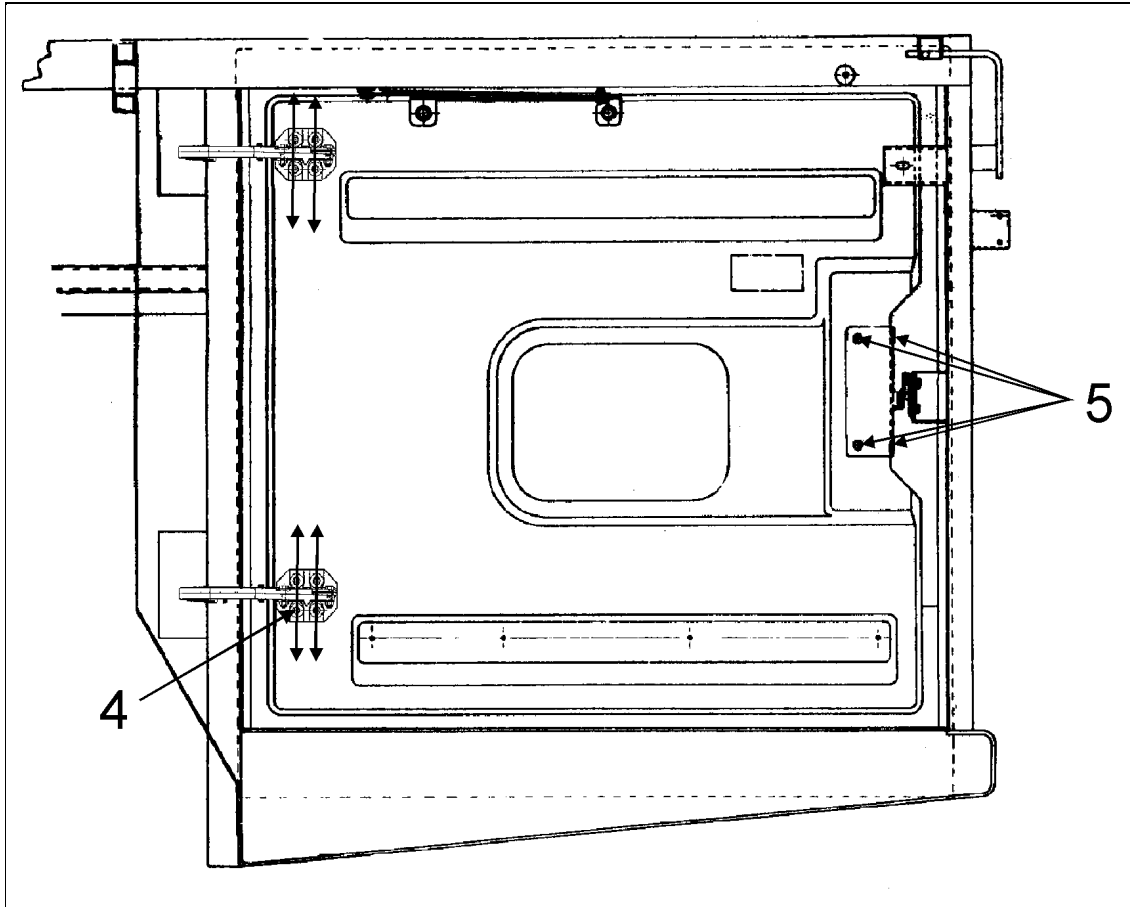

FIGURE 37: ENGINE COMPARTMENT REAR R.H. SIDE DOOR
4. Loosen the screws (4, Fig. 37). Screws allows the door to be shifted "UP or DOWN". Adjust the door position according to the distance required between exterior finishing parts (Fig. 18). Tighten the screws.
To adjust the latch mechanism, open the door to access the screws holding the latch mechanism to the door panel. Loosen the screws (5, Fig. 37) and move the latch assembly as needed. Tighten the screws. Check door fit and operation.